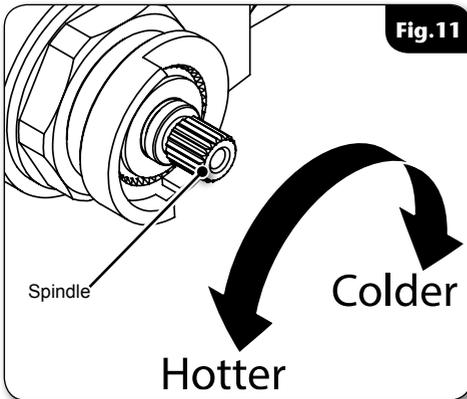

Fig. 11
- Turn the flow control to full flow. With a steady flow running, adjust the temperature spindle until the temperature is about 38°C (**fig.11**).